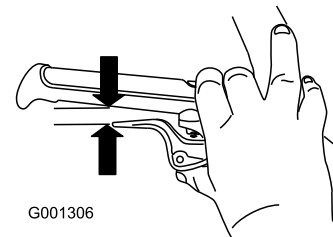

Figure 31
1. Squeeze the lever fully, then check the gap between the bottom of the handle and the wheel-clutch lever end (Figure 31).
2. Repeat for the other cable (Figure 31).